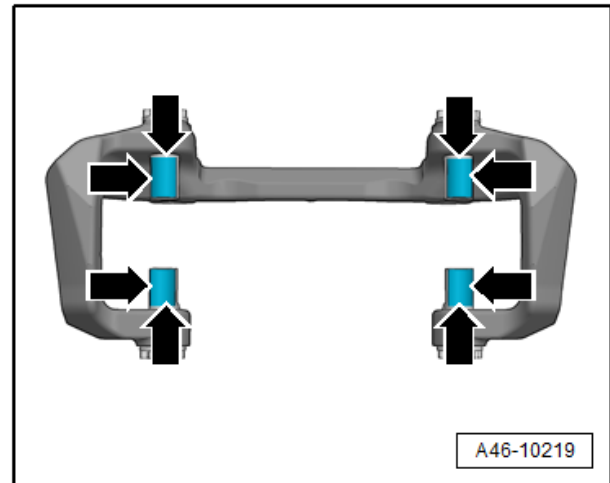

Figure 2. Caliper carrier guide pins with anti-seize (G 052560A2) lubricant applied where the pads make contact.
1. Apply a thin coat of anti-seize (G 052560A2) lubricant to the guide pins of the caliper carrier prior to installing the brake pads (Figure 2).